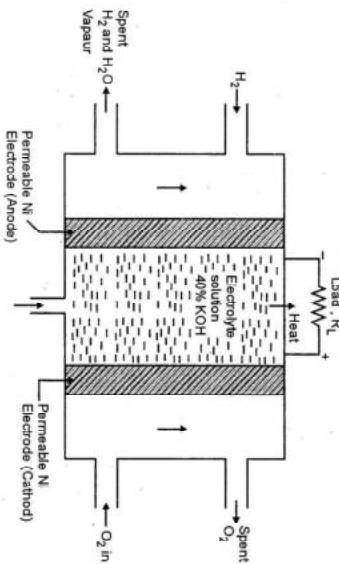

Fig. 4.9.1 : A hydrox ( $H_2$  –  $O_2$ ) fuel cell (Alkaline Fuel Cell)
Fig. 4.9.1 represents the schematic diagram of an alkaline fuel cell, using
- (iv) The porous fuel electrode as anode (negative pole) and the other porous oxidant electrode as cathode (positive pole) both are separated by a gas barrier called separator (which is not shown in Fig. 4.9.1.).
- The electrodes are connected through an external circuit as shown in Fig. 4.9.1.
- (7)